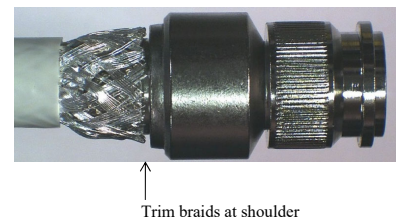

Figure 5
- 8) Position crimp ferrule over braids, up to connector body shoulder (Fig. 5). Secure the body while locating ferrule, to avoid shifting the center contact. Trim any stray braids at the shoulder prior to final seating of the ferrule against the connector body. Avoid pulling ferrule backwards over the cable, which may undo braid weave.
- 9) Verify center contact position and ferrule seating, prior to crimping. Crimp ferrule with M22520/5-01 hex crimp tool and PIC P/N 190418 crimp die set (Fig. 5), or with M22520/5-27 crimp die set (crimp all of zone depicted in Fig. 5 by crimping 2X).